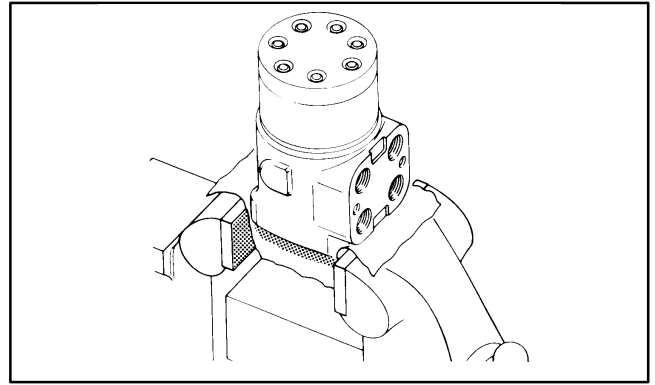

Figure 26
1. Clamp unit in vise, meter end up. Clamp lightly on edges of mounting area, see Fig. 26. Use protective material on vise jaws. Housing distortion could result if jaws are over-tightened.